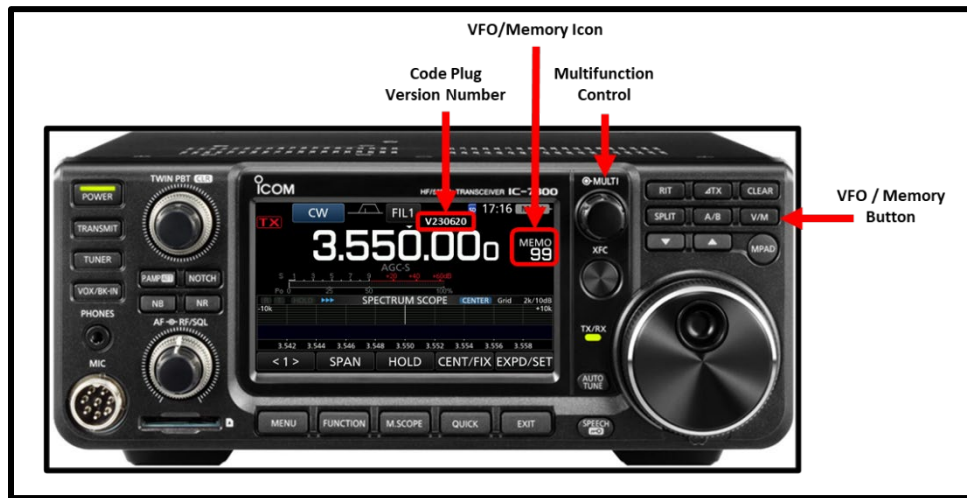

Figure 8. IC-7300 Controls and Indicators
3. The version number for the code plug currently installed in the transceiver is displayed in the tag area above the frequency. Refer to Figure 8 for the location of the code plug version number.